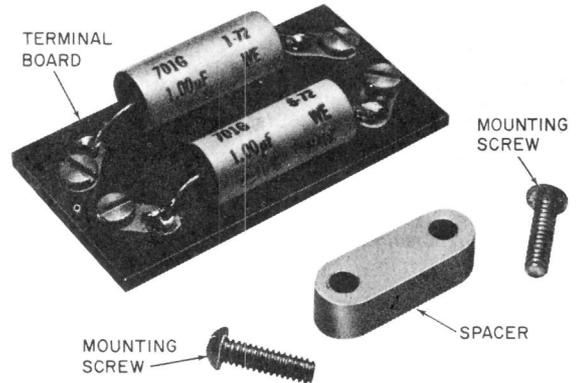

Fig. 43—840362024 Capacitor Board Assembly
(2) Install an 840362024 capacitor board assembly (Fig. 43).